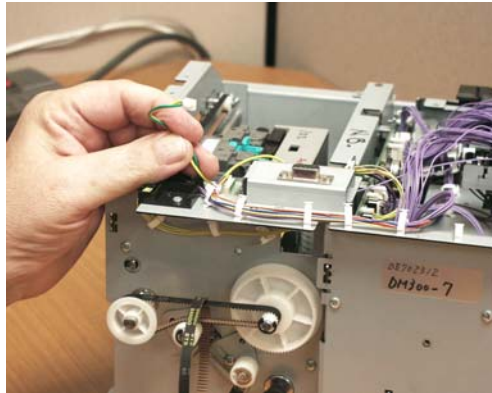

Figure 5-18 Disconnect Motor Harness at Main Logic Board
3. Disconnect motor harness at J115 on Main Logic Board (Figure 5-18).